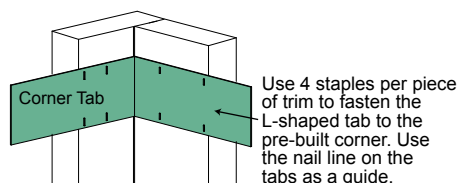

Figure 21
- Attach Corner Tabs to the back side of the trim with 8 18 ga. 1/2" L x 1/4" W narrow crown corrosion resistant staples using a pneumatic staple gun. Ensure the Corner Tabs are fastened tight and straight to the trim boards. (Figure 21)